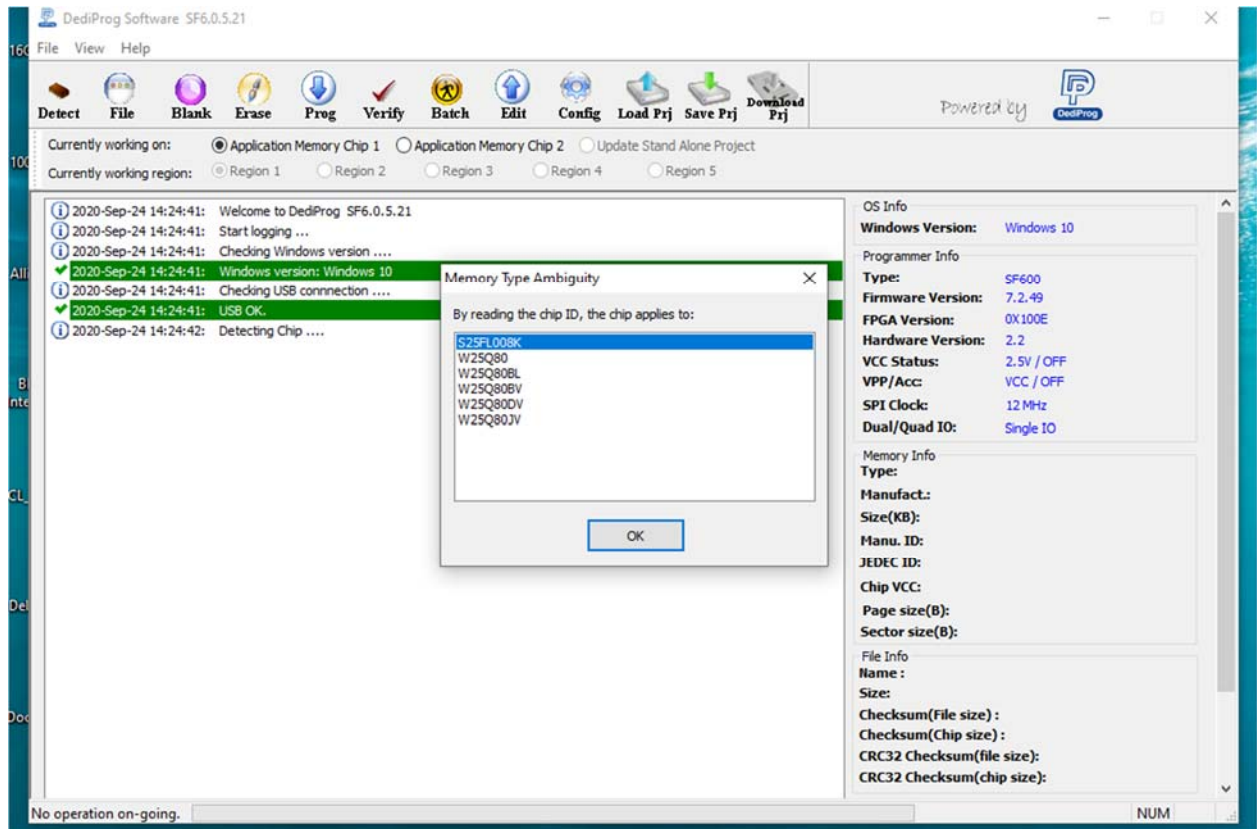

Figure 17: Choose the chip from memory list
- Step 2: Detect → choose First Chip number in the Memory list. (See Figure 17)